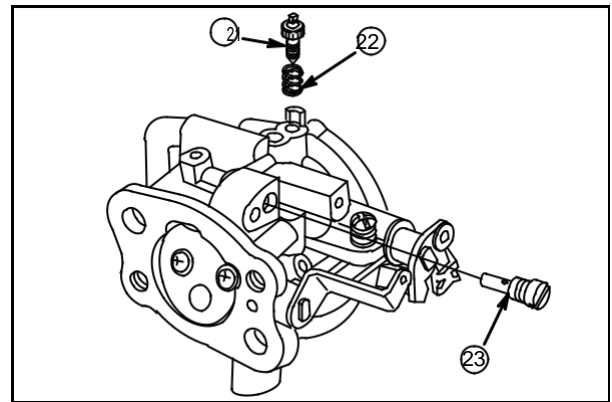

Fig. 55
Install pilot jet (23), **Fig. 55**.